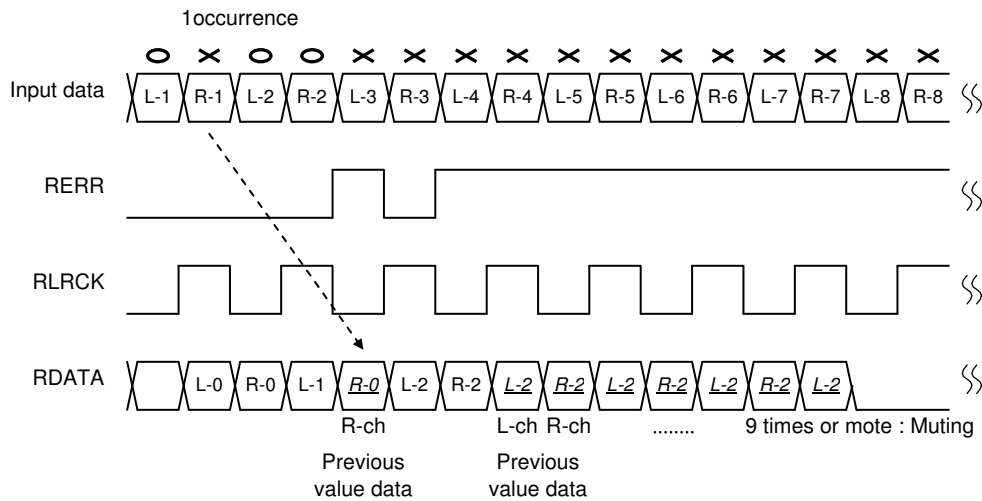

Figure 10.11 Example of Data Processing upon Parity Error Occurrence
- Figure 10.11 shows an example of data processing upon occurrence of a parity error.